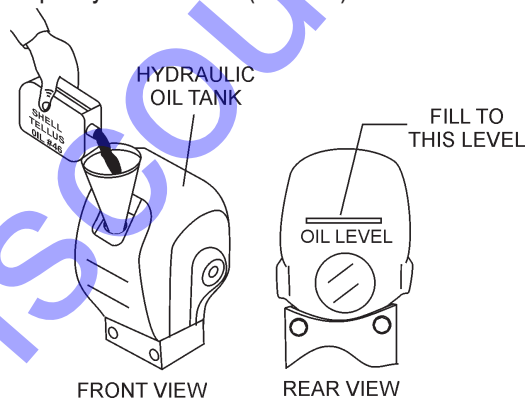

Figure 34. Hydraulic Oil Maintenance
2. Using a funnel, add **Shell Tellus Oil #46** or equivalent to the hydraulic oil tank through the oil filler port (Figure 34). Oil tank capacity is 50.7 fl. oz (1500 cc)